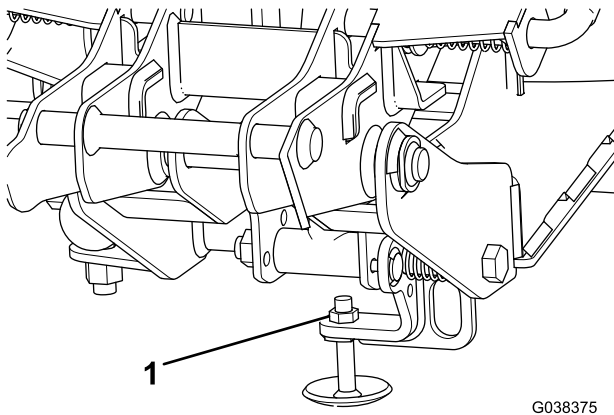

Figure 13
5. Tighten the jam nut (Figure 13).
3. Loosen the jam nut on the kickstand (Figure 13).